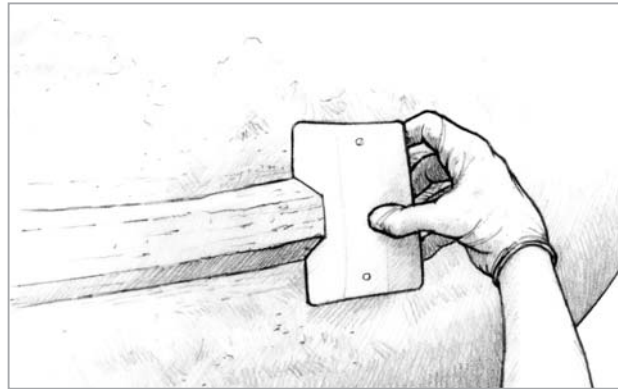

Figure 10 Use a spreader notched to the shape of the ridge to shape the mixture.
4. Apply a 1"-2" wide ridge of fairing compound to the surface at each guide location. Use the same mixture of epoxy/407 or 410 filler, thickened to a stiff, peanut butter consistency, that will be used to fill between the guides. Trowel on the fairing mixture with a plastic spreader, and then use a spreader notched to the shape of the ridge to shape the mixture (*Figure 10*). Cut the notch deep enough to equal the height of the ridge at the lowest area of the surface. Tilt the spreader as necessary to adjust the height.